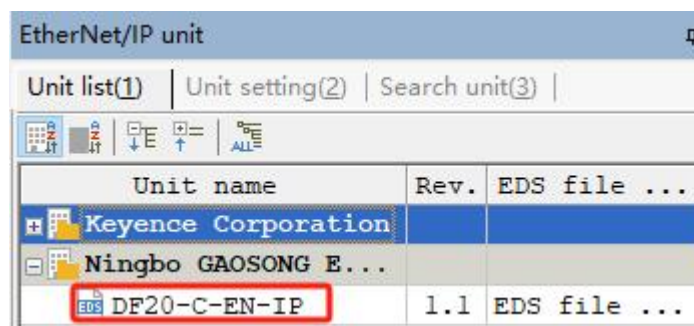

Figure 5-1-9
- The EDS file installation is completed as shown in Figure 5-1-9.